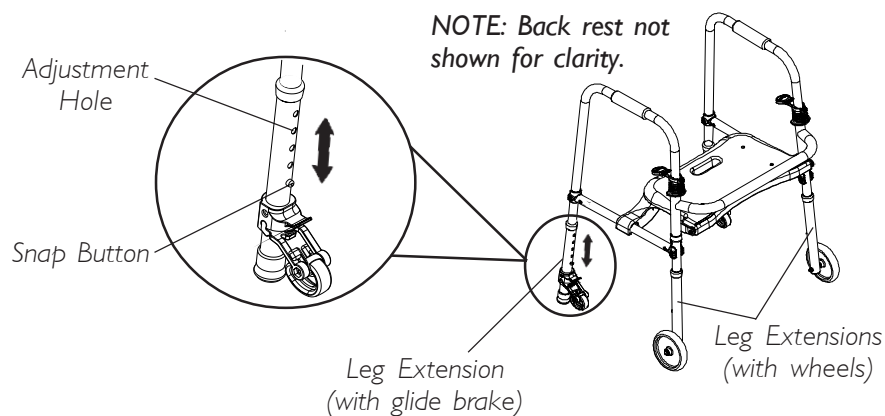

FIGURE 3 - INSTALLING/ADJUSTING LEG EXTENSIONS
INSTALLING/ADJUSTING LEG EXTENSIONS (FIGURE 3)
1. Depress the snap buttons on the front leg extensions (with wheels) of the walker and slide the leg extensions up or down to the desired height. Ensure that the snap button protrudes through the appropriate adjustment hole on the leg extension (FIGURE 3).